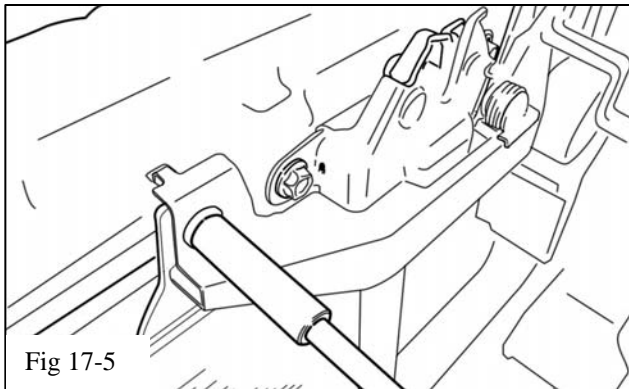

Fig 17-5
- (f) Reinstall the hood lock release lever protector with the original fasteners (Fig 17-5). **Torque: 12 Nm (9 ft lbf)**. The wires for the horns need to be routed to the left (driver side) of the LTR bracket. The temperature sensor wire needs to be routed between the 2 brackets.